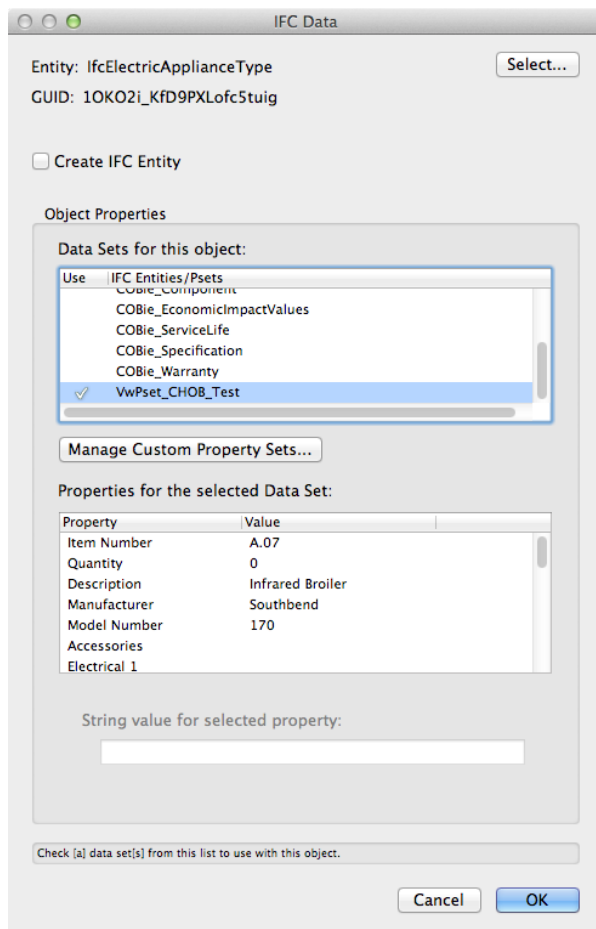

Figure 14 – IFC Data dialog with a Custom Property Set selected.
6. Click OK to return to the IFC Data dialog box (Figure 14).
8. Select the custom Pset properties and assign values to the selected properties through the “String value for selected property” field (Figure 14).